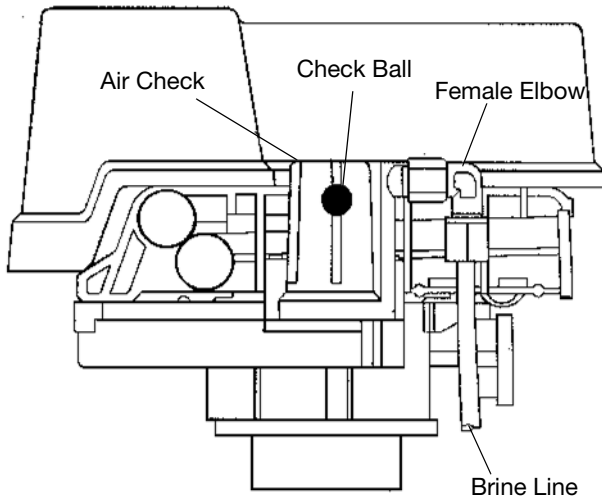

Figure 10 - Control Valve
- b. Carefully advance indicator knob **COUNTERCLOCKWISE** to center of **FAST RINSE/REFILL** position and hold there until air check (Figure 10) fills with water and water starts to flow through brine line into brine tank. Do not run for more than two minutes.